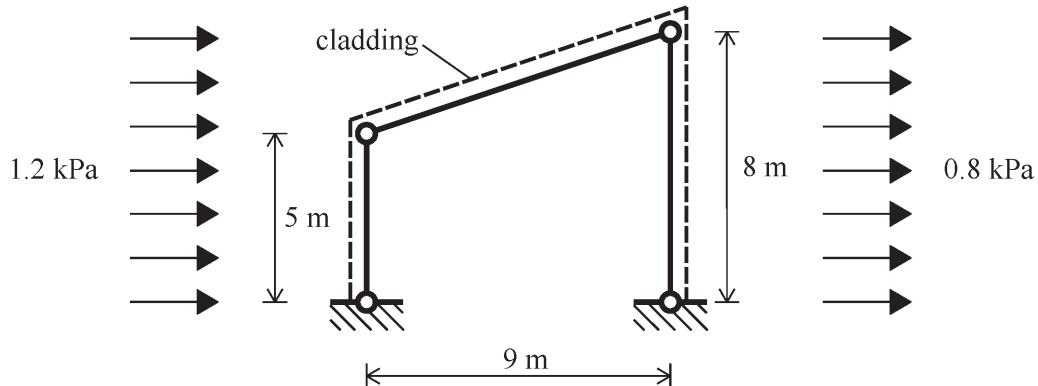

Fig. 1
1 A rectangular single-storey building is constructed from five nominally identical pin-jointed frames of span 9 m as shown in Fig. 1 and spaced 6 m apart along the building. The frames are connected to one another by eaves steel beams at the vertices of the frame. The building is clad with a metal deck that weighs  $0.2 \text{ kNm}^{-2}$  that is simply supported between the primary frames and in turn supports a uniformly distributed snow load of  $0.75 \text{ kNm}^{-2}$ . The building is subjected to the wind pressures shown in Fig. 1. All steel members are of grade S355 and the partial material factor  $\gamma_m$  for steel is 1.1.
- (c) In real-world conditions the wind direction will vary from that shown in Fig. 1. Without performing further detailed calculations, describe with the aid of sketches how the structural scheme you proposed in part (a) could be adapted to cater for different wind directions.